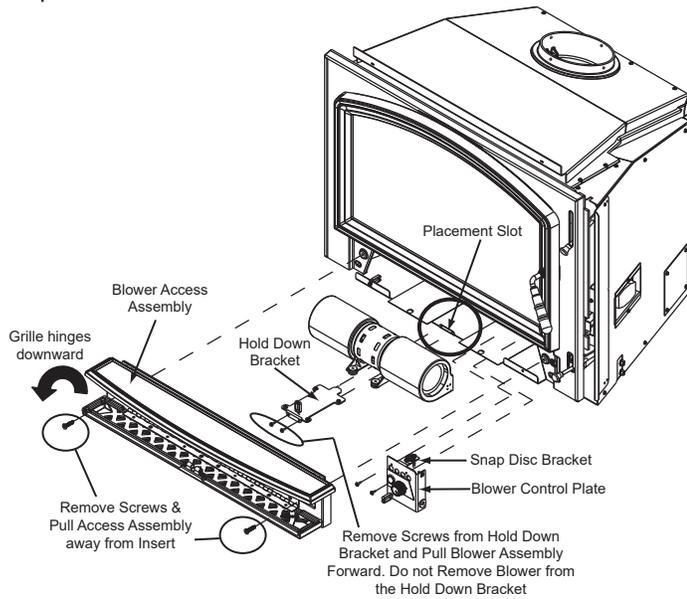

Figure 23.1
1. The grille on the blower access assembly is hinged. Swing the grille downward to expose the 2 screws (Figure 23.1).